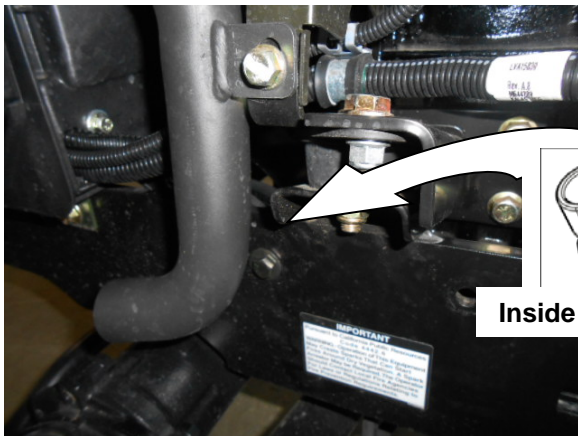

Figure 19
50. Secure main loom to inside of driver side frame using **(Figures 19 & 20)**;